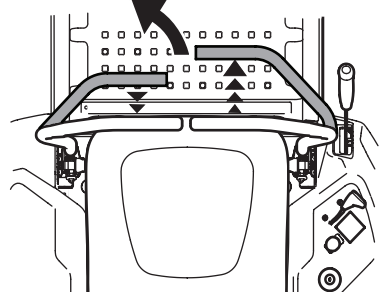

Figure 23
1. To turn to the left, move the left drive control lever rearward of the right drive control lever. See Figure 23.